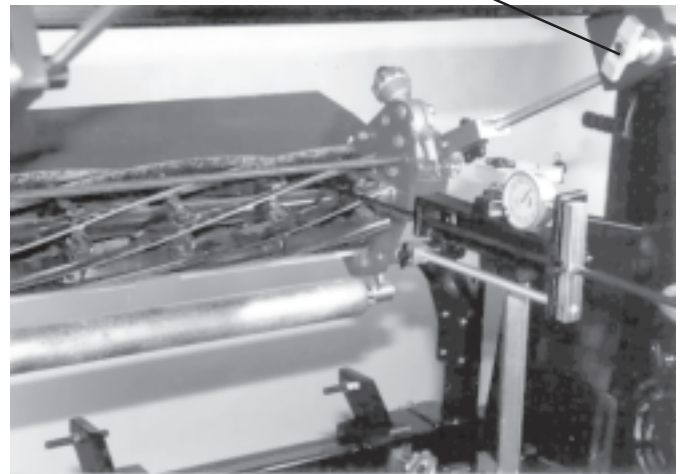

FIG. 36
- B. Generally it is preferred to have both overhead clamp rod adjusting knobs (See FIG. 36.) loose to allow the mower assembly which is mounted on the mower support bar to move freely when doing horizontal and vertical adjustments. Due to the configuration of some mower assemblies this cannot always be done. Some mowing units rely on the overhead clamp rods to support the unit and give rigidity. In these cases, the overhead clamp rod on the non-moving end of the mower support bar (right side from operator position) must be tight with the movable end (left side) only overhead clamp rod loose.